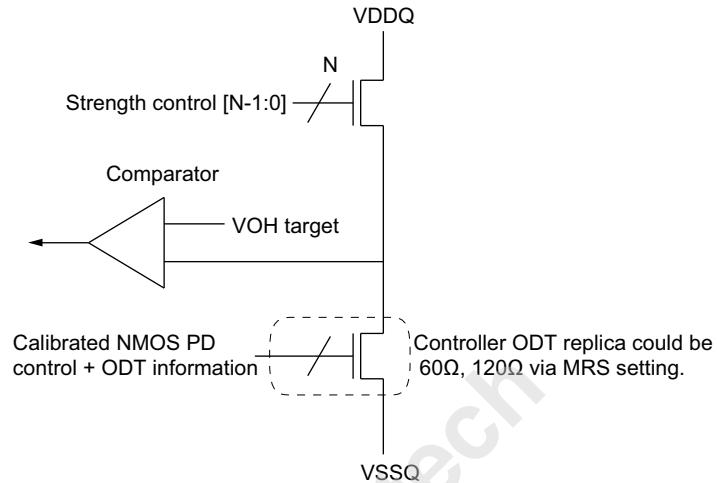

Figure 180 — Pull-up Calibration
2. Then calibrate the pull-up device against the calibrated pull-down device. (Figure 180).